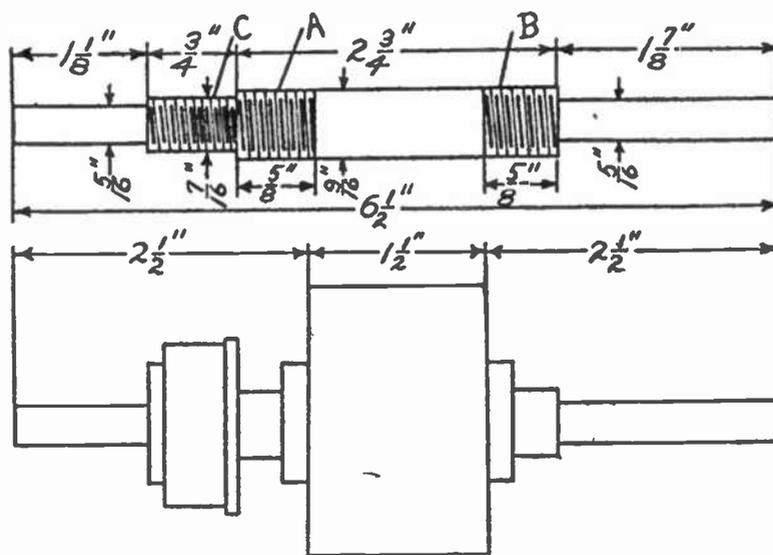
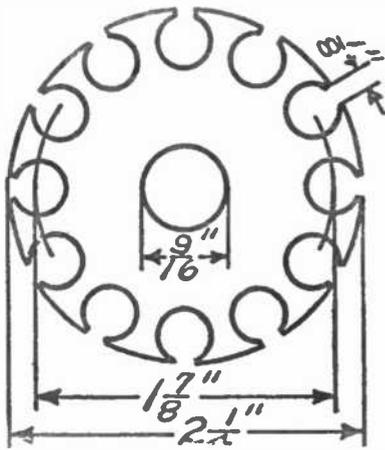

Fig. 8.—Steel Shaft for Armature.
Fig. 9.—Armature Laminæ of Sheet Steel.
*B*, Fig. 8, 12 threads per inch for a distance of  $\frac{5}{8}$ -inch. Procure two blank hexagon nuts and tap them  $\frac{9}{16}$ -inch 12 threads per inch.
The armature laminæ, Fig. 9, are made of No. 29 sheet steel. Cut enough  $2\frac{1}{2}$ -inch discs to make a stack
frame, to secure the proper width of cut. The armature discs will then appear as in Fig. 9. The shaft is completed by turning it to the dimensions, Fig. 8, and threading the portion *C* for the commutator, 14 threads per inch, for a distance of  $\frac{1}{4}$ -inch from the end.